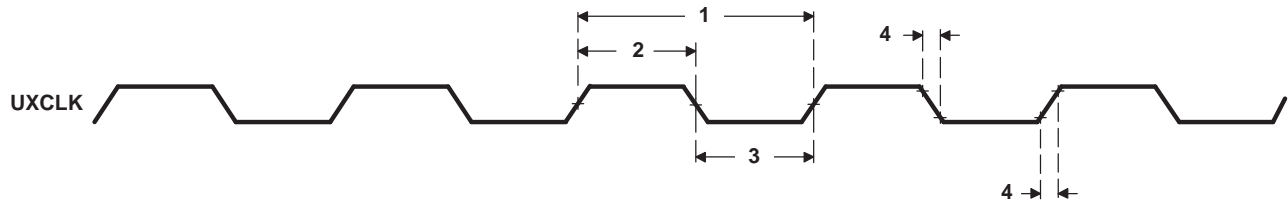

Figure 5-44. UXCLK Timing
5.13.1 Timing Requirements for UXCLK⁽¹⁾ (see Figure 5-44)